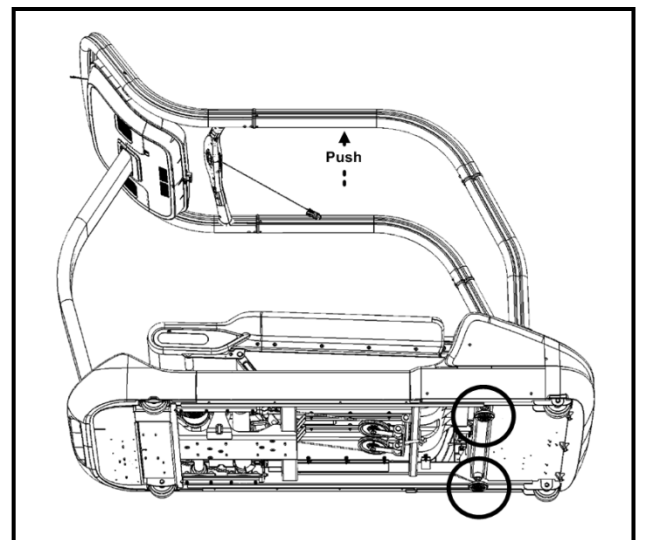

Fig. 29
27. With two or more people, have one person carefully tilt the assembled TreadClimber (Fig. 29) at an angle by pushing up at the center of each handrail while the second person installs the rear stabilizing feet.